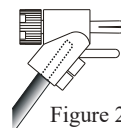

Figure 2
2. Attach the previously prepared bare wire cable ends into the banana plugs and secure the connections. Refer to figure 2.
3. Attach the prepared bare wire cable ends into the banana plugs and secure the connections. Refer to figure 2.